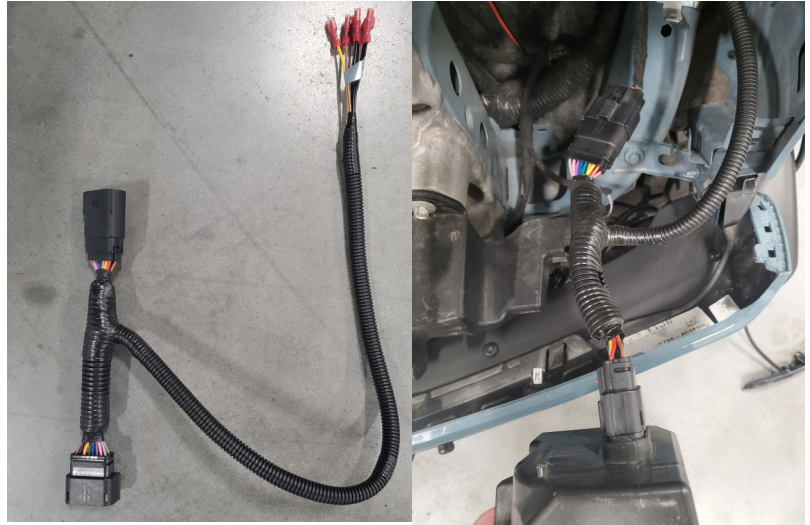

Figure 8.
**8.** Disconnect the headlight from the OEM wire harness. Insert one of the 529034 “T” harnesses into the headlight assembly. Insert the other end into the OEM harness. Fish the end with the spade connectors up and behind the engine bay frame. Reattach the headlight. Repeat on the other headlight. See figure 8 for more detail.